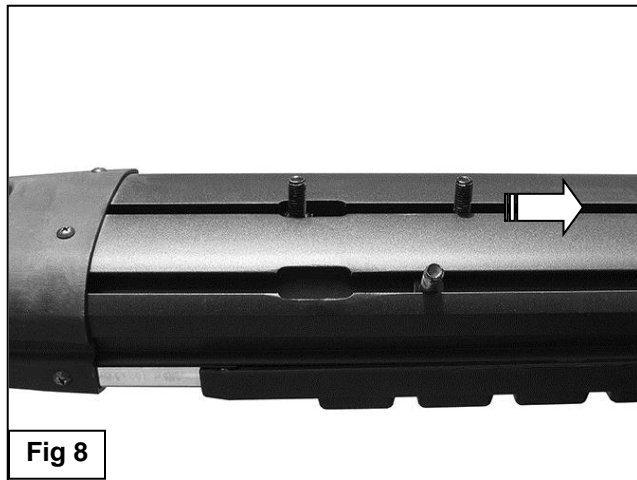

Fig 8
- Repeat **Steps 2—3** for the center, **(Figures 5 & 6-middle of the cab)**, and rear Mounting Bracket installation, **(Figures 7 & 8)**. **NOTE:** The rear Mounting Brackets, **(Figure 8)**, are slightly different from the front and center brackets, (see illustration above-note bolt pattern on mounting plate).